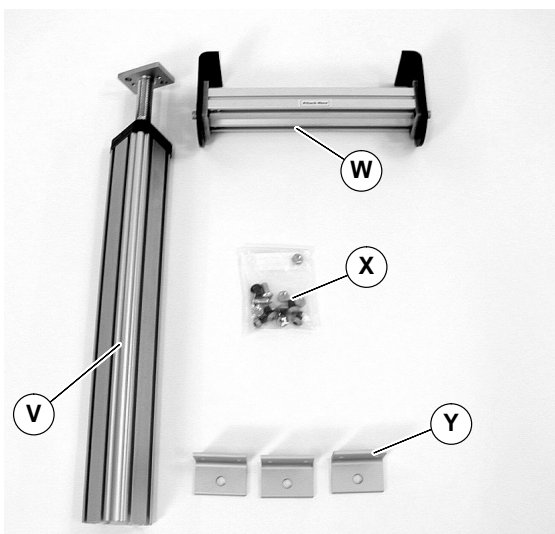

Figure 10
1. Typical components (Figure 10).
2. Open the hardware pack, single post stand (X of Figure 10).